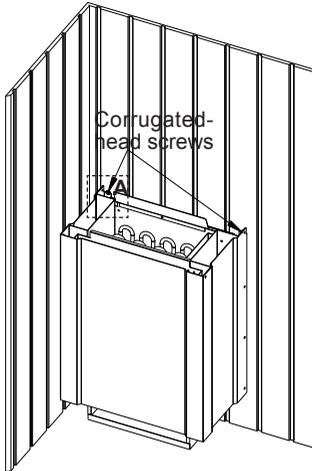
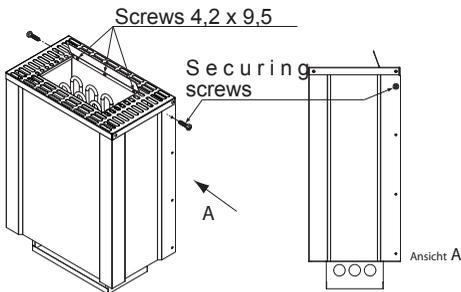

Fig. 6
Fig. 7
6. Secure the heater on the sauna wall behind it using 2 screws through the holes in the rear upper edge of the heater (see fig. 5) or alternatively secure it to the side wall, as shown on fig. 6.
7. Secure the heater on the sauna wall behind it using 2 screws through the holes in the rear upper edge of the heater (see fig. 6) or alternatively secure it to the side wall, as shown on fig. 7.
In contrast to the information on sensor installation in the installation instructions for your sauna control unit, the sensor for this heater is mounted centrally above the heater on the cabin wall, 5 cm below the ceiling (Fig. 6).